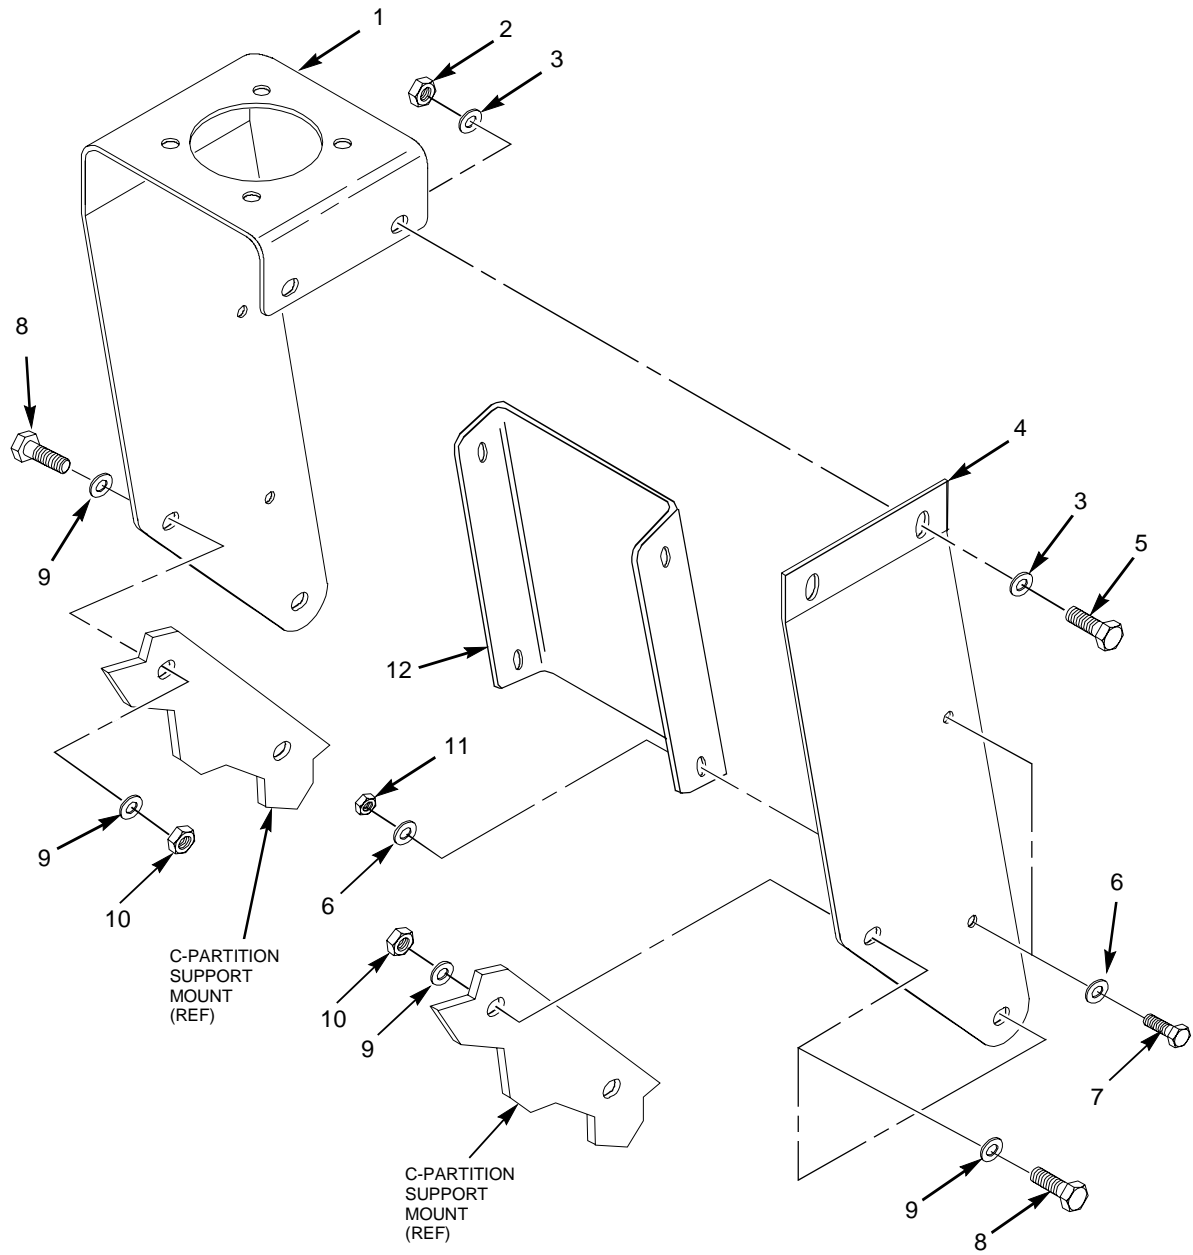
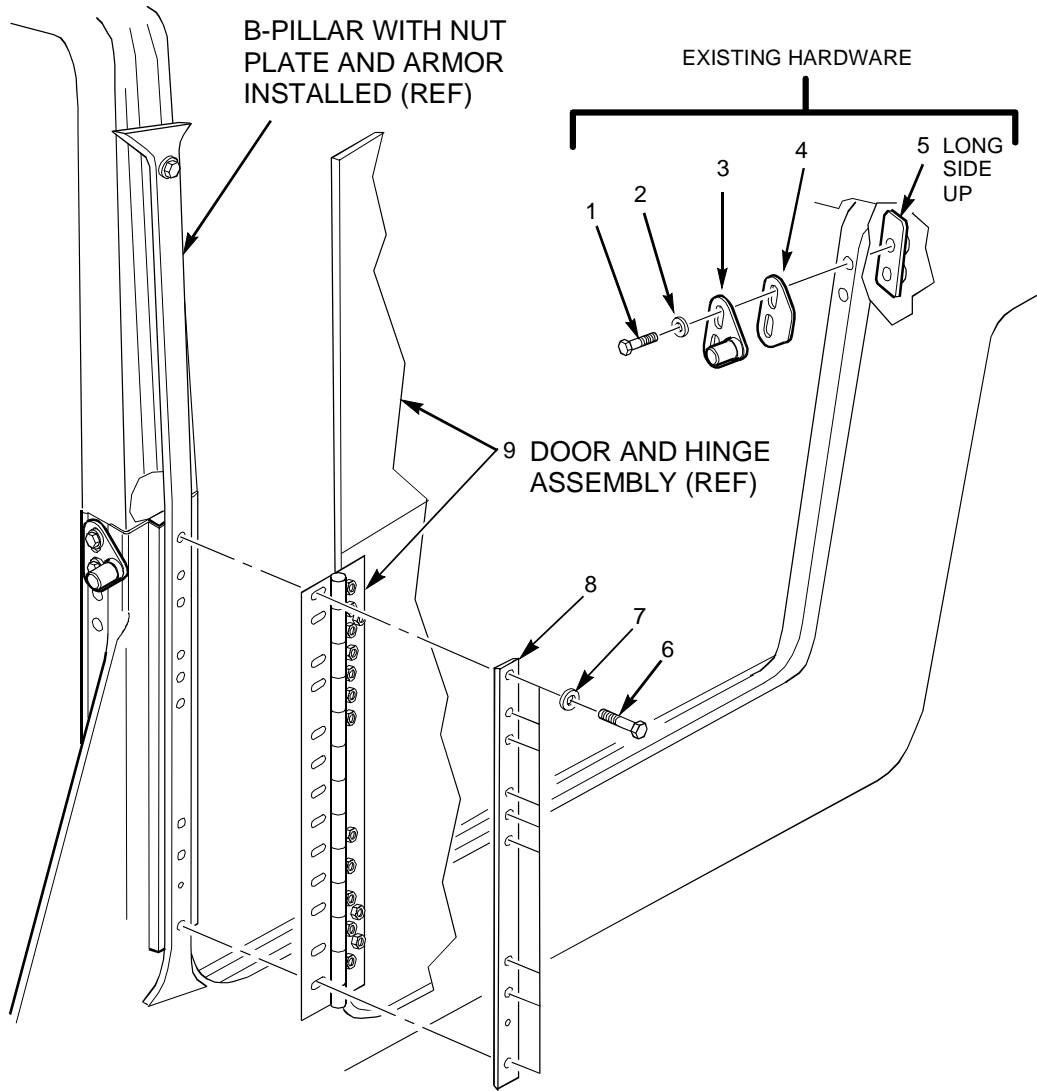

Figure 1-22. Antenna Mount Installation (4 Door Only)
Figure 1-23. Rear Door Installation (4 Door Only)
- 1) Install antenna mount (see figure 1-22).
- a. Install interior antenna mount bracket (4) and exterior antenna mount bracket (1) on C-partition support mount with four capscrews (8), eight washers (9), and four locknuts (10). Torque locknuts (10) to 37 lb ft (50 N•m).
- b. Install center support brace (12) on interior antenna mount bracket (4) and exterior antenna mount bracket (1) with four capscrews (7), eight washers (6), and four locknuts (11). Torque locknuts (11) to 10 lb ft (14 N•m).
- c. Secure interior antenna mount bracket (4) to exterior antenna mount bracket (1) with two capscrews (5), four washers (3), and two locknuts (2). Torque locknuts (2) to 37 lb ft (50 N•m).
- 1) Install rear door assembly (see figure 1-23).
- a. Apply sealing compound to two capscrews (1).
- b. Install existing striker plate (3), spacer (4), striker backup plate with weldnuts (5), two capscrews (1) and two washers (2). Torque capscrews (1) to 10 lb ft (14 N•m).
- c. Position rear door assembly with hinge (9) onto B-pillar per figure 1-22. Secure door assembly with hinge (9) and B-pillar cover strip (8) with nine capscrews (6) and washers (7). Align door assembly (9) with door striker (3) as required.
- d. With door assembly (9) aligned, torque the nine door hinge capscrews (6) to 37 lb ft (50 N•m).